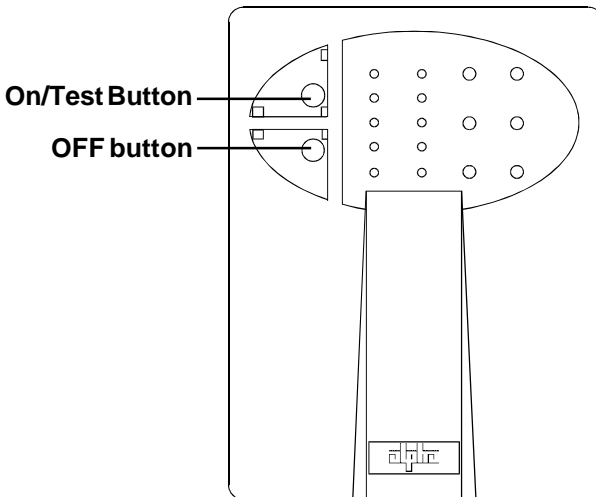

Figure 1.1
PURPOSE: Describes the items on the ALI-PLUS's front and rear panels (Figure 1.1 to 1.15).
1.3.1 Front Panel Buttons and LED Indicators (Figures 1.1, 1.2).